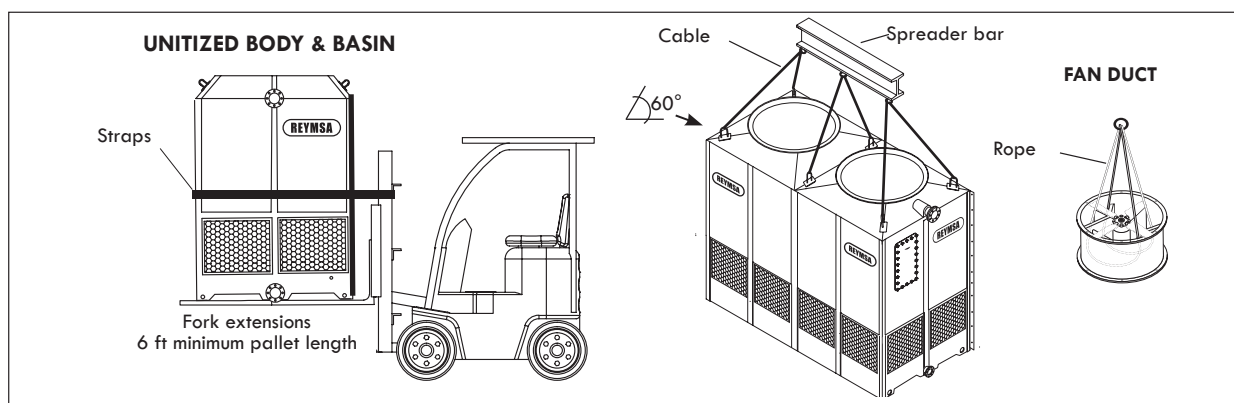

Figure A-42: Quadruple Fan Tower fork and crane lifting
- B. After verifying the equipment is received in proper condition, proceed to unload it piece by piece, with a crane or forklift of the appropriate capacity (see Figure A-42 for reference).
- D. For crane lifting, it's recommended to use a minimum lifting angle of 60° between the strap and the horizontal. The Body section has U-bolts for lifting, one on each corner. Place the straps through the u-bolts (as shown in Figure A-42) and use a spreader bar to avoid damage on the upper edge of the Tower. Don't balance until tensing the straps.